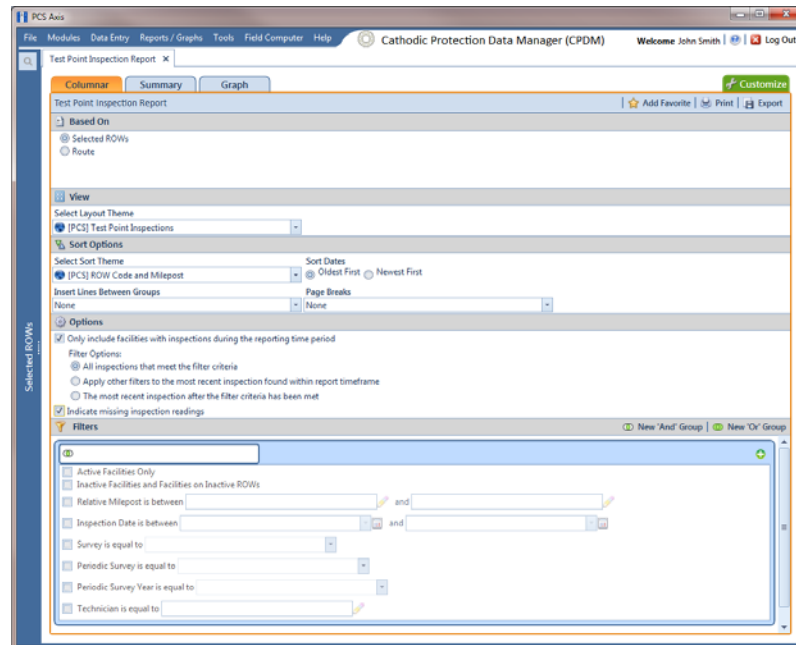

Figure 15-22. Test Point Inspection Report
- 2 Click **Reports/Graphs** and then select a report in the menu to open a window with report property settings. If the *Columnar* property settings window is not visible, click the **Columnar** tab  to open the window (Figure 15-22, page 598).
The following figure shows an example of the *Columnar* property settings window for the *Test Point Inspection Report* (Figure 15-22, page 598).